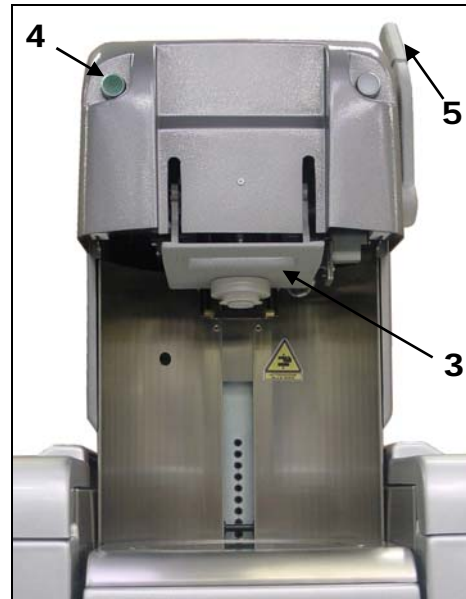

Figure 7-3
2. Grasp the upper plugger grip (2) and lower it to turn the device downward, into working position (3) (Figure 7-4 and Figure 7-3).
3. If illuminated, press and hold down the green enabling button  (4) and lower the punch side lever (5) to insert the plug (Figure 7-3). If the green button is not illuminated, it means that the can has not been correctly positioned (chapter 7.3.1).